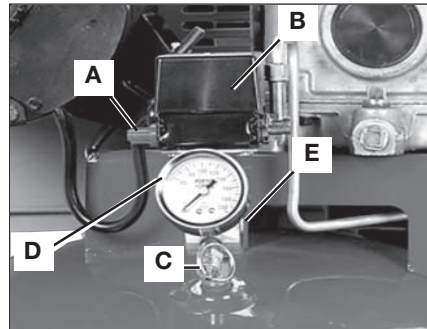

Fig. 1
ON/AUTO-OFF Switch (A) Fig. 1: Turn this switch ON to provide automatic power to the pressure switch and OFF to remove power.
Pressure Switch (B) Fig. 1: The pressure switch automatically starts the motor when the air tank pressure drops below the factory set "cut-in" pressure. It stops the motor when the air tank pressure reaches the factory set "cut-out" pressure.
Air Tank Safety Valve (C) Fig. 1: If the pressure switch does not shut off the air compressor at its cut-out pressure setting, the safety valve will protect against high pressure by "popping off" at its factory set pressure (slightly higher than the pressure switch cut-out setting).
Air Tank Pressure Gauge (D) Fig. 1: The air tank pressure gauge indicates the reserve air pressure in the air tank. On units with no pressure regulator, this is also the pressure available at the air outlet.
Shut-off Valve (sold separately): Closes the air outlet (E, Fig. 1) allowing the tank to fill with air.